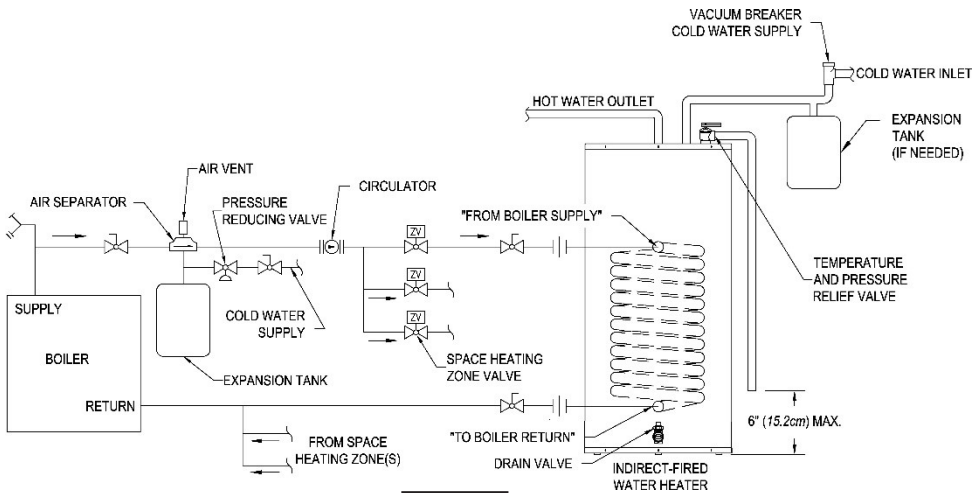

Fig. 3
1. For a space heating system that utilizes ZONE VALVES, refer to Figure 3. The indirect-fired water heater connection labeled “FROM BOILER SUPPLY” should be piped to the boiler supply piping. Mount the circulator making sure the flow arrow points toward the water heater. The use of shut-off valves and unions are recommended for future service convenience. The use of an air separator and vent is recommended to eliminate air in the system. Pipe and fittings between the boiler and indirect-fired water heater must be ¾” diameter or larger.